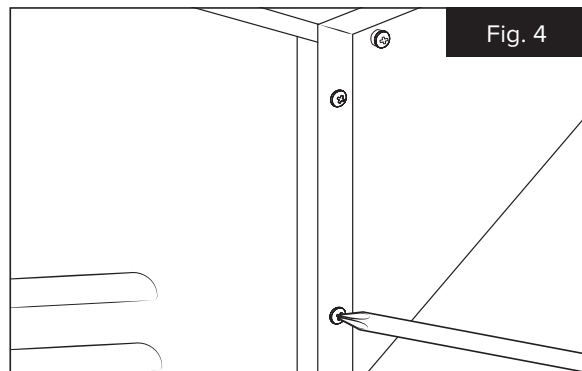

Fig. 4
3. Attach the front shelf supports (C, D, E) to the front of the unit using the provided short Phillips screws and lock washers (K). (Figure 4)